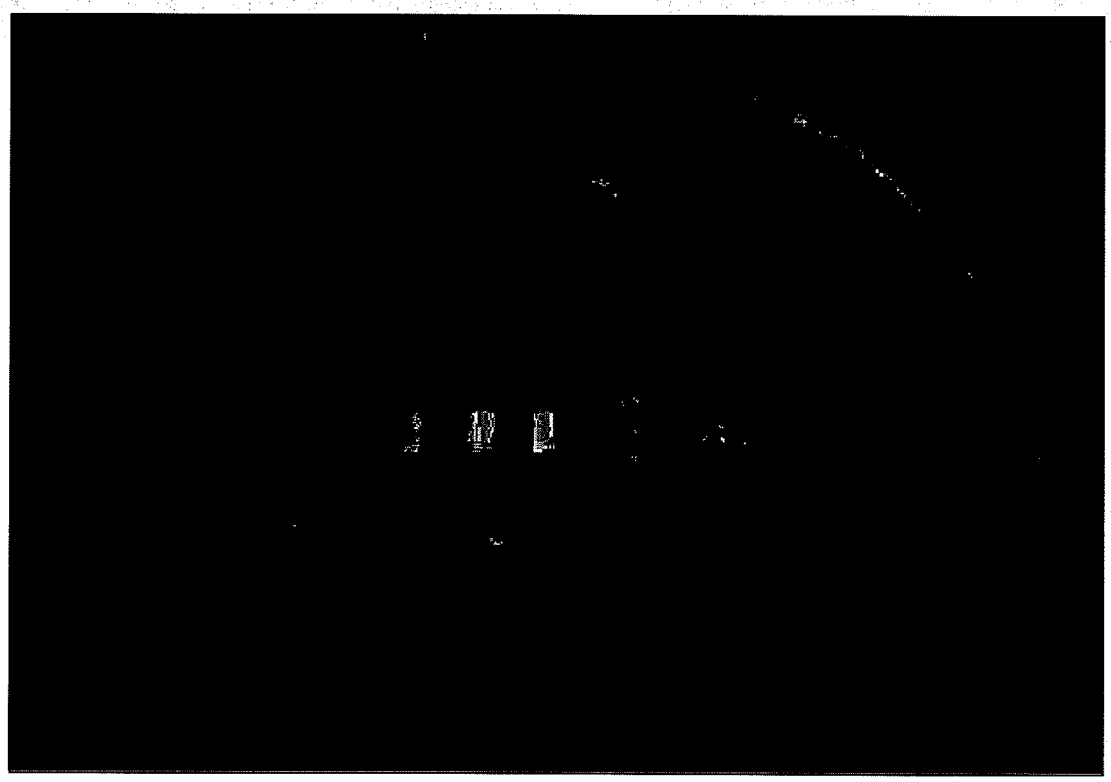

Figure 2
**Squeegee / Vacuum Switch** (See Figure 2, Item "M")